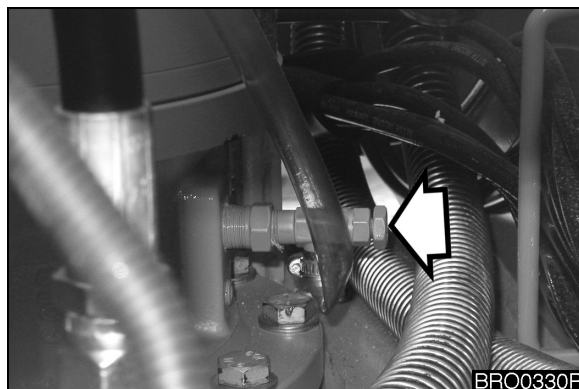

Figure 68
2. Open drain plug (Figure 68).